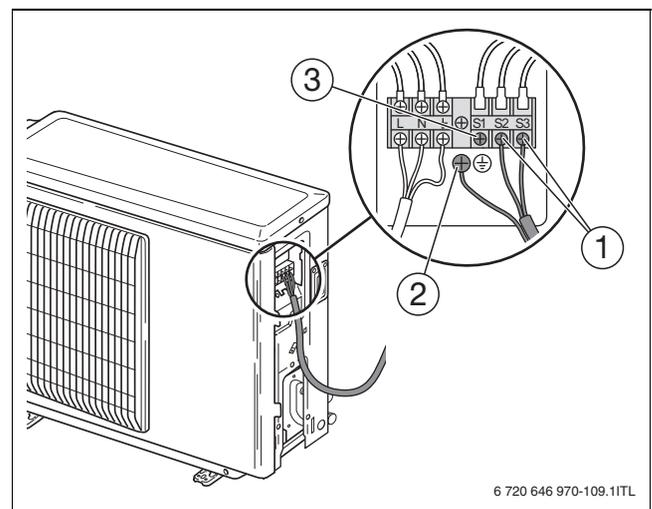

Fig. 38 External unit terminal
**i** For outdoor use, the three-core power cable for the external unit must have a flexible Neoprene® sheath and a cross-section of at least 1.5 mm2. We recommend the use of screened cables, run inside conduits, e.g. LIY CY (TP).
- ▶ Connect the earth cable to the external unit (→ Fig. 38, [1]). Use an earth cable which is longer than the other cables so that it will not become disconnected when strain is applied.
- ▶ Connect the CANBUS cables from the air to water heat pump control unit to terminals S2 to S3 (→ Fig. 38, [1]).